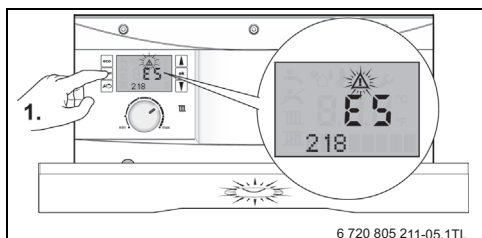

Fig. 8
1. A fault condition is indicated by a flashing blue operation/ fault light and a triangular alert symbol on the display. A flashing **fault code** is also displayed, see figure 8.
- ▶ Make a note of these fault codes, in the table below as an example see figure 8, fault codes E5 and 218.